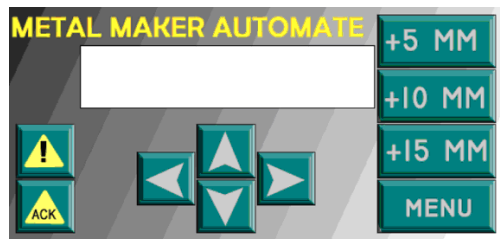

Figure 3-17 Non-Reversed Panel Image
- Printing a non-reversed panel image allows the elements to be read correctly when printed. Use the non-reversed panel image when you print a paper copy of the faceplate for review. See Figure 3-17.